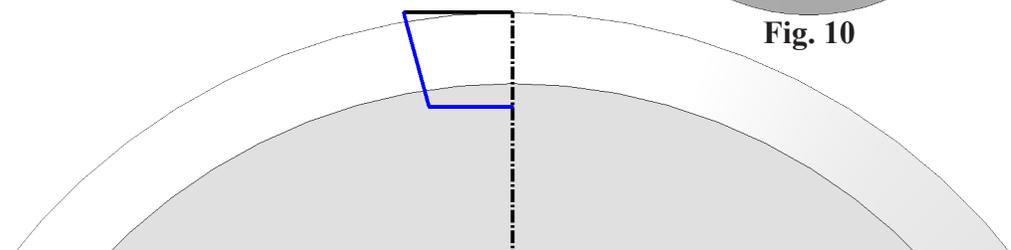

Fig. 11
Step 6. Sketch three lines. Start at top endpoint of centerline with a horizontal line, and a line down at a angle, then a **line back to the centerline**, **Fig. 11**.